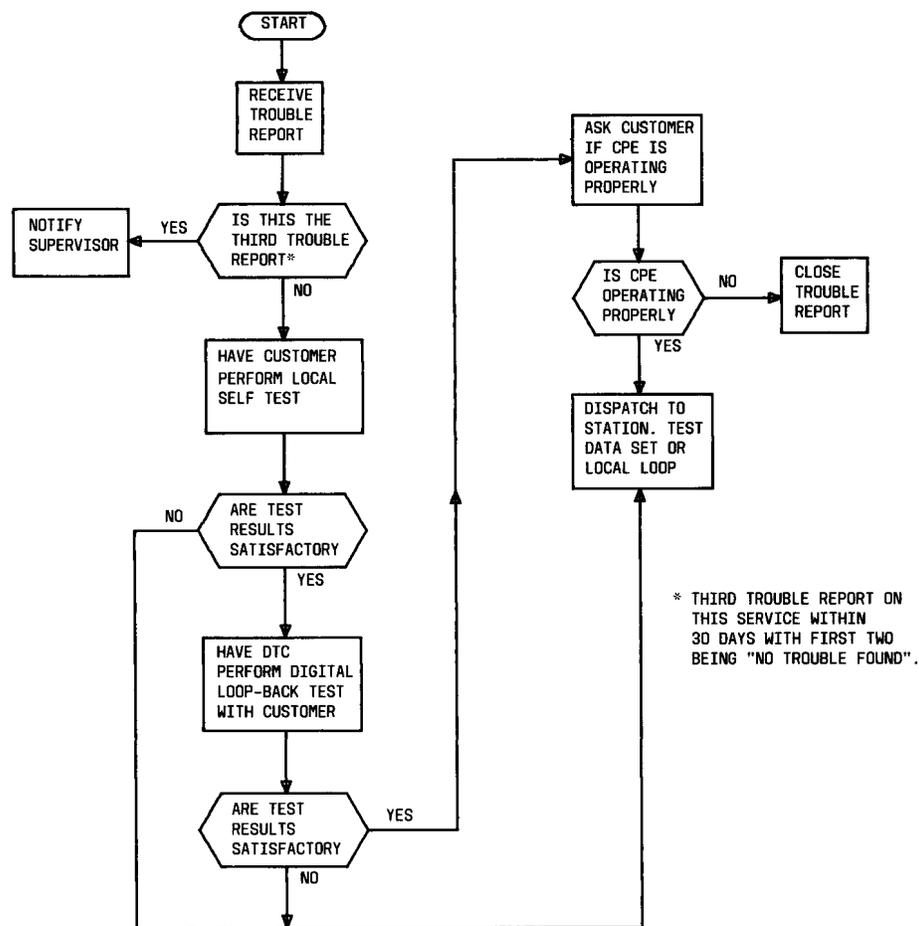

Fig. 6—Maintenance Test Sequence
4.01 The procedure given in Fig. 6 should be used as an aid in sectionalizing trouble. This information, usually provided to the DTC, is included here for use by those locations where the trouble is reported to and investigated by the local repair force.